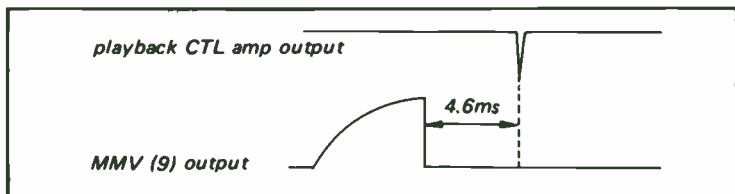

Fig. 3-9. Pulse delay.
Thus the output delayed 2/3 cycle is obtained. VR2505 adjusts a delay amount of the MMV(8) so that the output phase of the MMV(9) has the relationship of the output phase of the CTL amplifier (as shown in Fig. 3-9) when the tracking control knob is at the center detent position. The tracking control varies the delay amount of MMV(9) to obtain a delay or advanced CTL signal reference to the playback output of the CTL head.